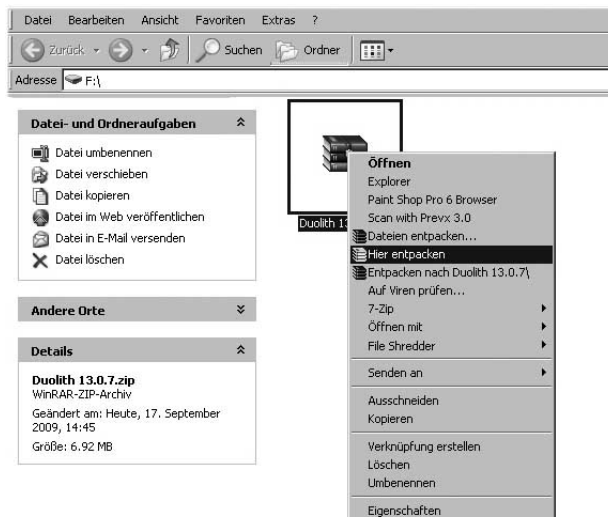

Fig.3-29 Extracting files
- Select "Extract to here" (Fig.3-29).